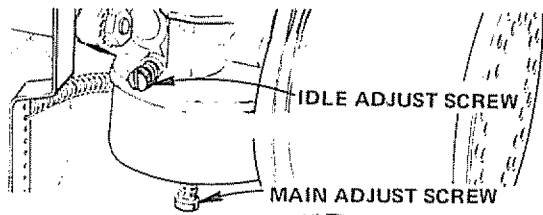

FIGURE 25
1. Close Main Adjust Screw (Fig. 25) by turning clockwise (↻). Close finger tight only. Forcing may cause damage.
2. Open Main Adjust Screw (Fig. 25) by turning 1 - 1/2 turns counterclockwise (↺).
3. Close Idle Adjust Screw (Fig. 25) by turning clockwise (↻). Close finger tight ONLY. Forcing may cause damage.